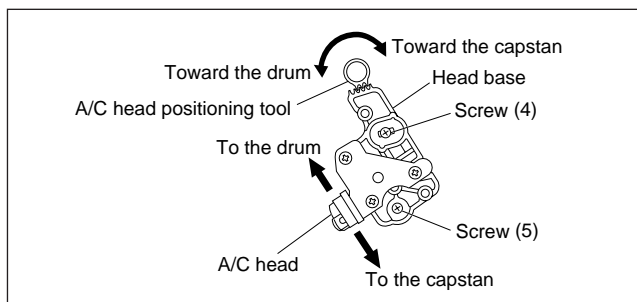

Fig. 2-3-3a
- (1) Play back the alignment tape (A1).
- (2) Apply the external trigger signal to D.FF (E), to observe the V.PB FM waveform at the measuring point (D).
- (3) Set the VCR to the manual tracking mode.
- (4) Loosen the screws (4) and (5), then set the A/C head positioning tool to the innermost projected part of the A/C head. (See Fig. 2-3-3a.)
- (5) Turn the A/C head positioning tool fully toward the capstan. Then turn it back gradually toward the drum and stop on the second peak point position of the V.PB FM waveform output level. Then tighten the screws (4) and (5).
- (6) Perform the tracking operation and make sure that the V.PB FM waveform is at its maximum. If it is not at maximum, loosen the screws (4) and (5), and turn the A/C head positioning tool to bring the A/C head to a position, around where the waveform reaches its maximum for the first time. Then tighten the screws (4) and (5).
**[Perform adjustment steps (7) to (10) only for 2 Head models equipped with LP mode.]**
- (7) Then play back the alignment tape (A2).
- (8) Set the VCR to the manual tracking mode.
- (9) Perform the tracking operation and make sure that the V.PB FM waveform is at its maximum.
- (10) If it is not at maximum, loosen the screws (4) and (5), and turn the A/C head positioning tool to bring the A/C head to a position, around where the waveform reaches its maximum for the first time. Then tighten the screws (4) and (5).
- After adjusting, always perform the confirmation and re-adjustment of the item 2.3.4.